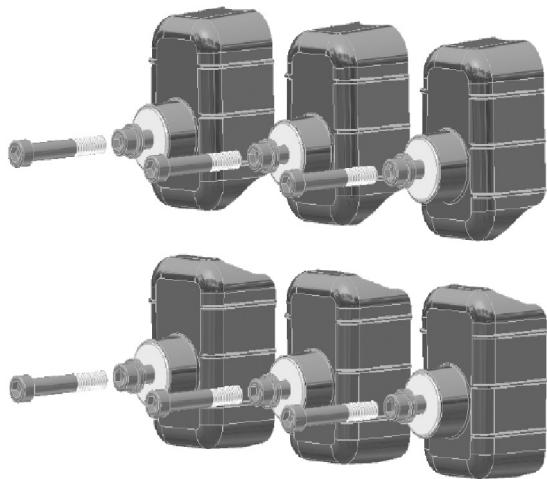

Figure 10
1) Parameter describes the distance between busbar connection points on the upper and lower terminals of the ISM15\_Shell\_2 per Figure 10 and Figure 11.